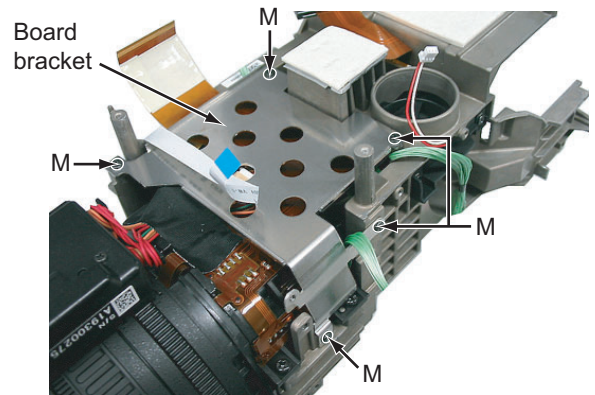

Fig. 16
3.1.7 Removing the lens unit (See Figure 16 and 17)